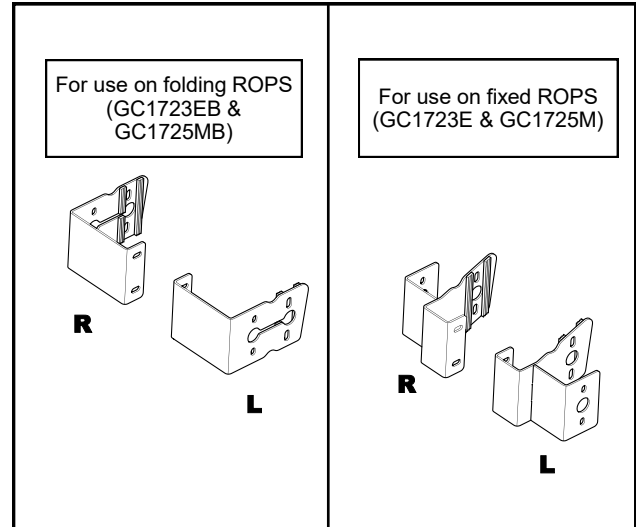

Fig. 8.1 (Roll Bar Bracket Options)
8.1 Per Fig. 8.1, select the appropriate pair of roll bar brackets for the application. Discard whichever pair is not used.